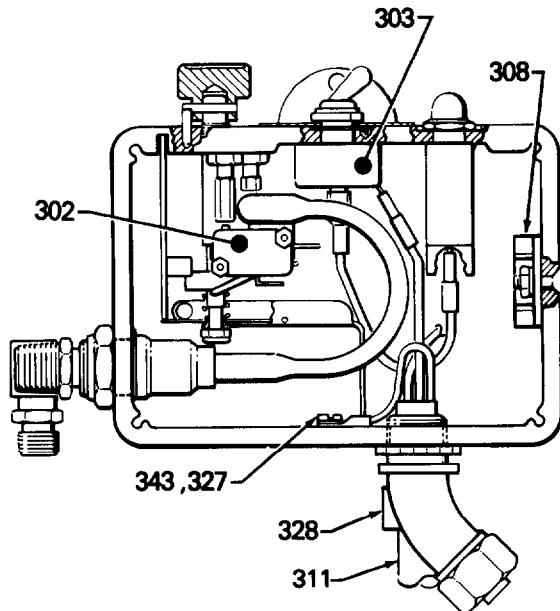

Fig 12
## POWER SUPPLY CORD REPLACEMENT (See Fig 12)
## ON/OFF SWITCH REPLACEMENT (See Fig 12 and 13)
2. Use a needle nose pliers to disconnect the upper terminal wire from the microswitch (302) for ease in removing the ON/OFF switch (303). Refer to Fig 12.
3. Use the pliers to disconnect the two black wires from the ON/OFF switch (303). Refer to Fig 12.
9. Reconnect the wires to the ON/OFF switch (303) and reconnect the wire to the microswitch (302). Refer to Fig 12.